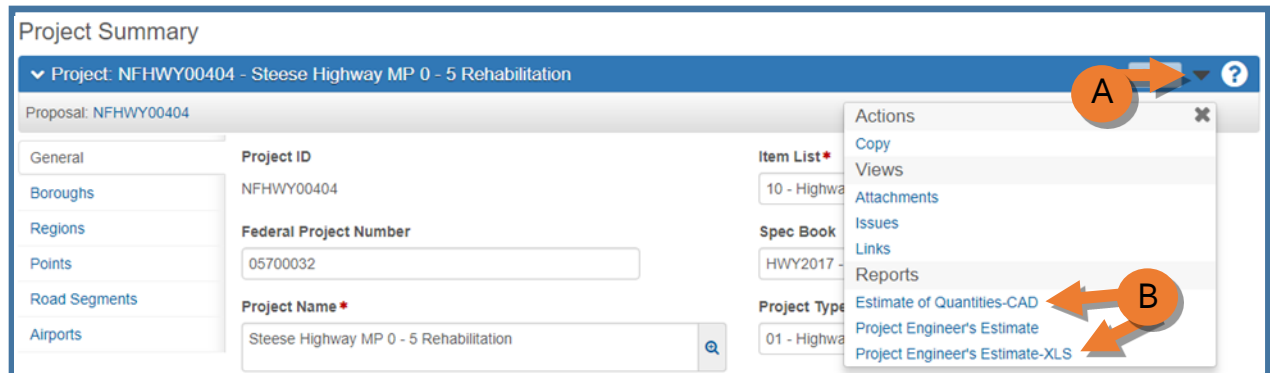

Figure 18.22
1. From the Project Overview component on the dashboard, search for and select your project. The Project Summary component will appear (*Figure 18.22*).
2. (A) Expand the Project Summary component **action menu** on the right side of the header.
3. (B) Select **Project Engineer's Estimate-XLS** or **Estimate of Quantities-CAD**.